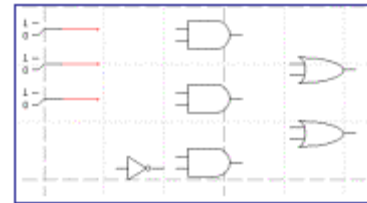

Fig. 8
- Drag the mouse a half-inch or so to the right and release the button. A red wire should now be attached to the switch, ending in the middle of nowhere. See Fig. 8.